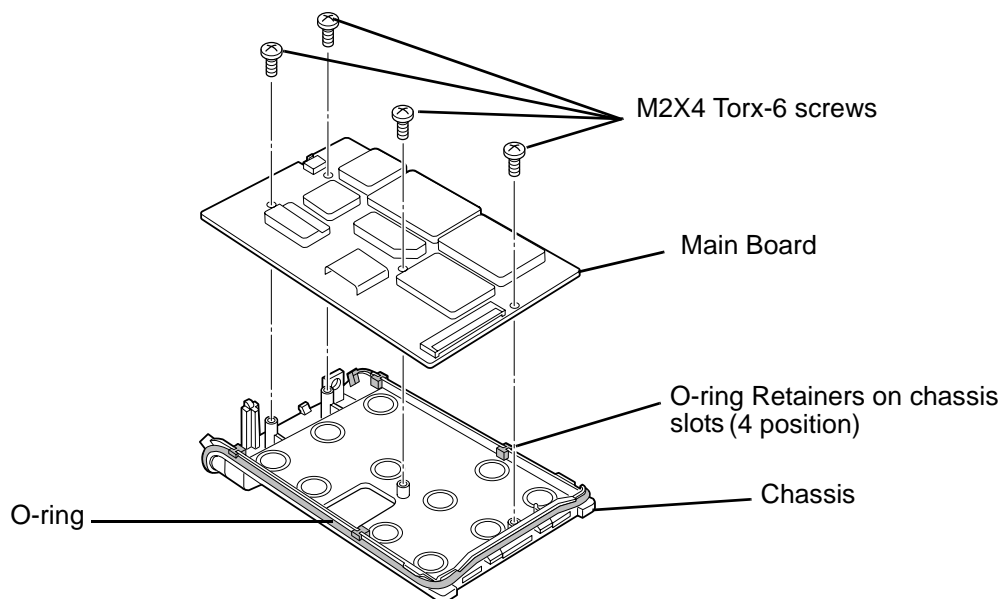

Figure 3-5 Remove Main Board from Chassis
1. Lift the main board from the chassis (See Figure 3-5).